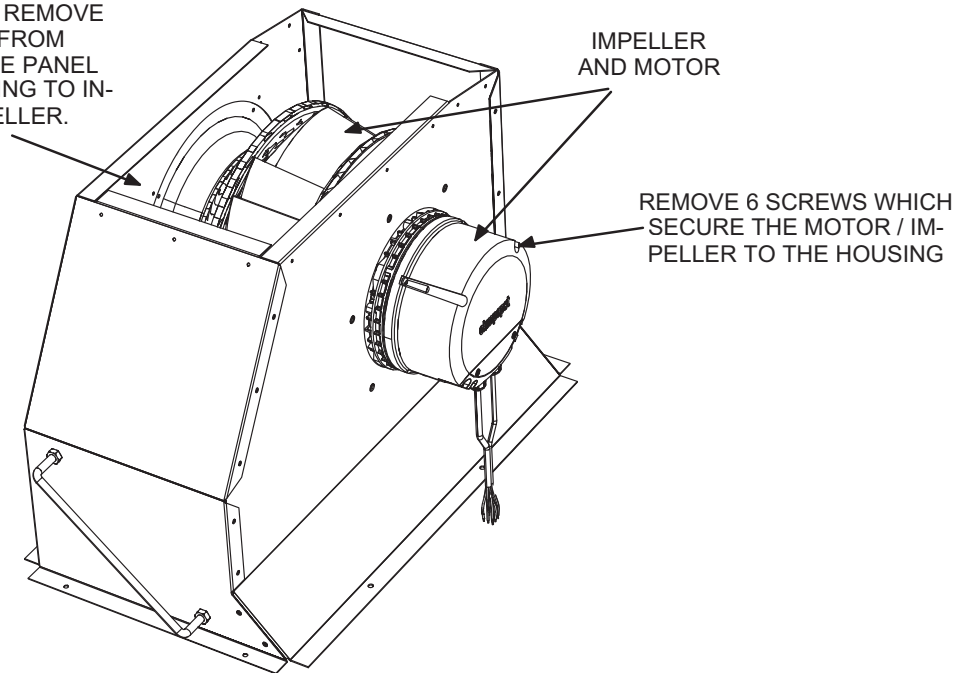
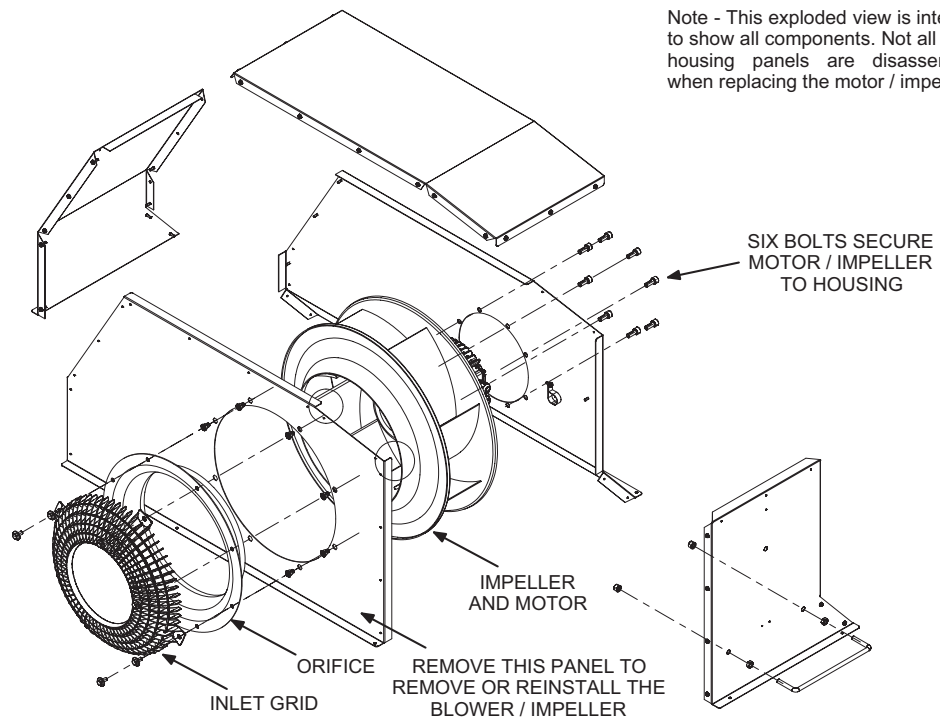

FIGURE 6
FIGURE 7
- 11 - Turn the blower assembly upside down. See FIGURE 6.
- 12 - Remove the inlet grill, orifice and the side of the housing shown in FIGURE 7.
- 13 - Remove the motor / impeller secured to the existing housing. See FIGURE 6 and FIGURE 7.
- 15 - Remove one side of the replacement housing. See FIGURE 6 and FIGURE 7.